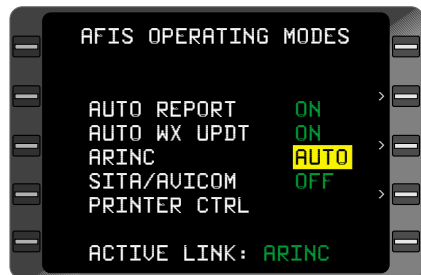

Figure 7-124
5. **BACK** Key - DEPRESS until **AUTO** appears in the cursor. (Figure 7-124)